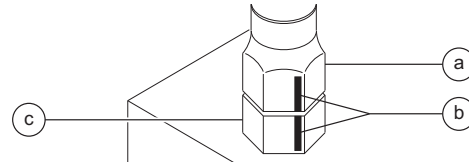

Figure 1
- 2 Make a reference mark on one of the flats of the hex nut, and continue it on to the body hex fitting with a permanent ink marker. Refer to Figure 1.